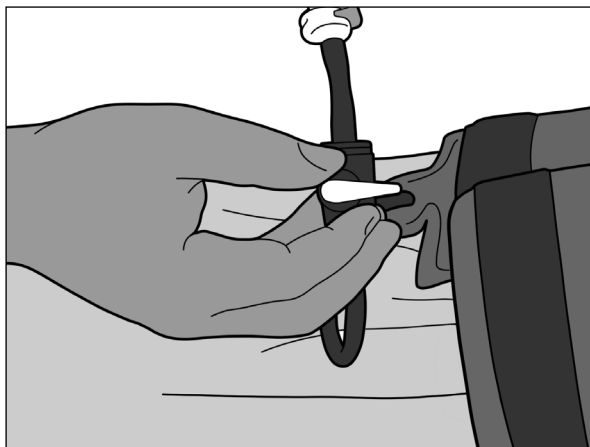

Fig. 17
4. Close the valve by turning the shutoff valve perpendicular to tubing. Wait 2 minutes (Fig. 17).
7. Close the valve by turning the shutoff valve perpendicular to tubing (Fig. 17).